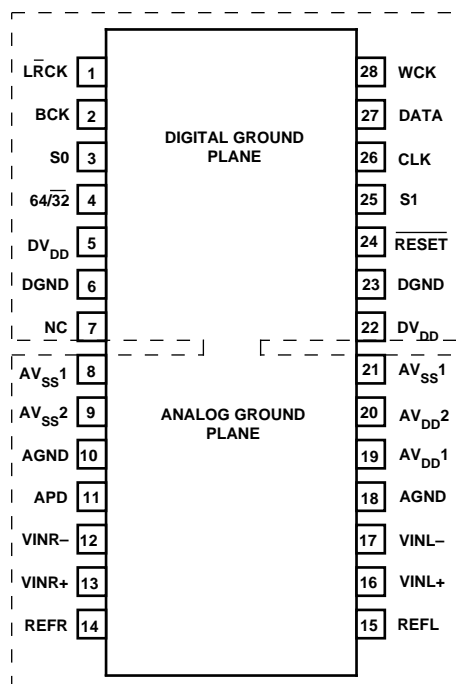

Figure 5. AD1878/AD1879 Recommended Ground Plane
- The AD1878/AD1879 should be placed on a split ground plane as illustrated in Figure 5. The digital ground plane should be placed under the top end of the package and the analog ground plane should be placed under the bottom end of the package as shown in Figure 5. The split should be between Pins 7 and 8 and between Pins 21 and 22. The ground planes should be tied together at one spot underneath the center of the package. This ground plane technique also minimizes RF transmission and reception.